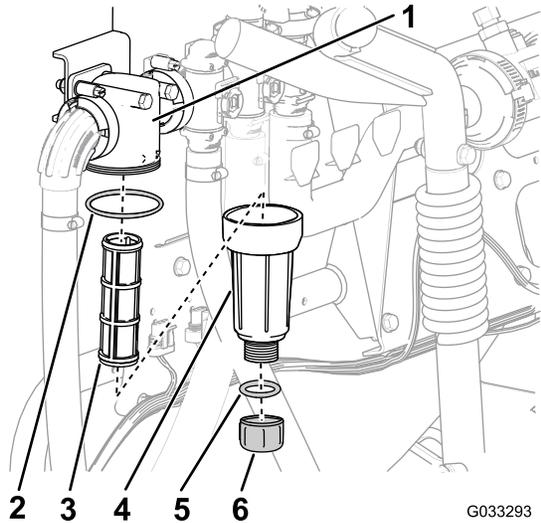

Figure 56
2. Align a drain pan under the pressure filter (Figure 56).
3. Rotate the drain plug counterclockwise and remove it from the bowl of the pressure filter (Figure 56).
4. Rotate the bowl counterclockwise and remove from its filter head (Figure 56).
5. Remove the old pressure filter element (Figure 56).
6. Check the O-ring for the drain plug (located inside the bowl) and the O-ring for bowl (located inside the filter head) for damage and wear (Figure 56).
7. Install the new pressure filter element into the filter head (Figure 56).
8. Install the bowl onto the filter head hand-tight (Figure 56).
9. Install the plug into the bowl hand-tight (Figure 56).